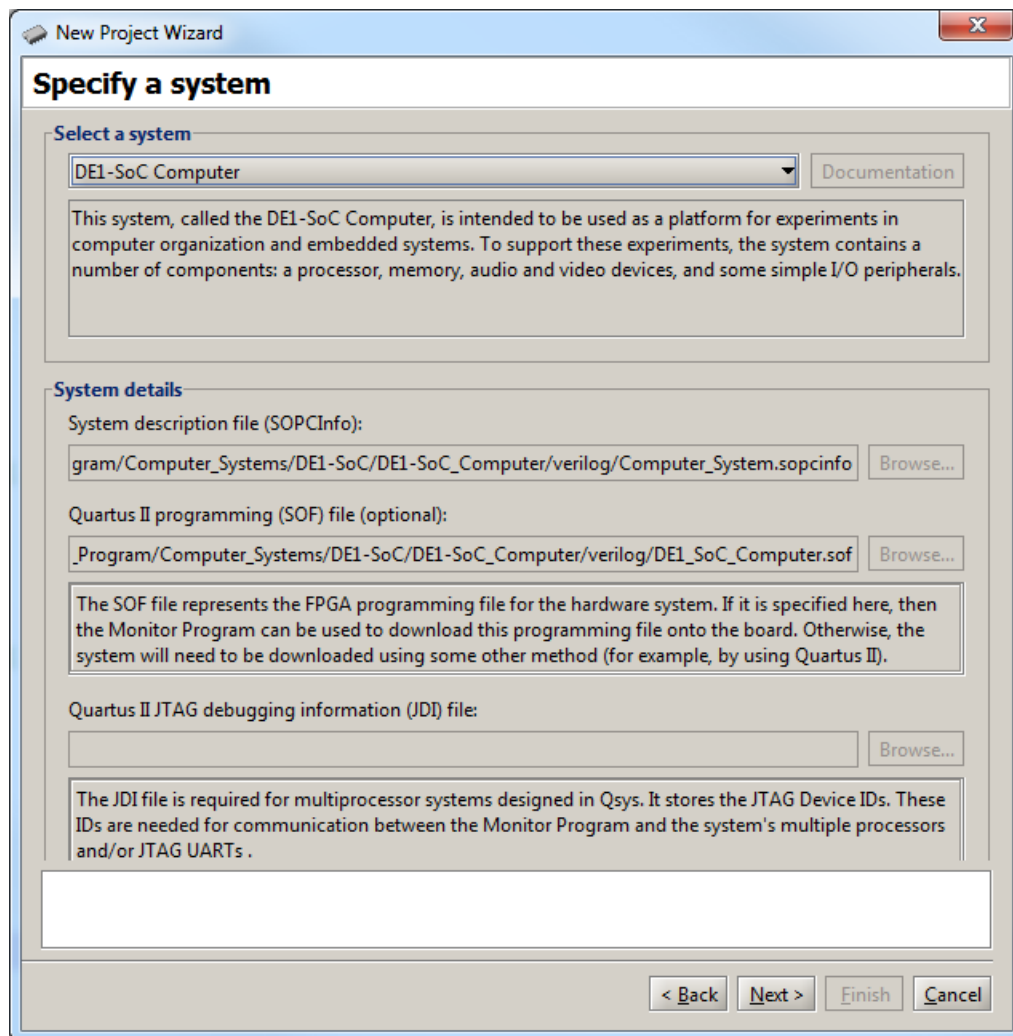
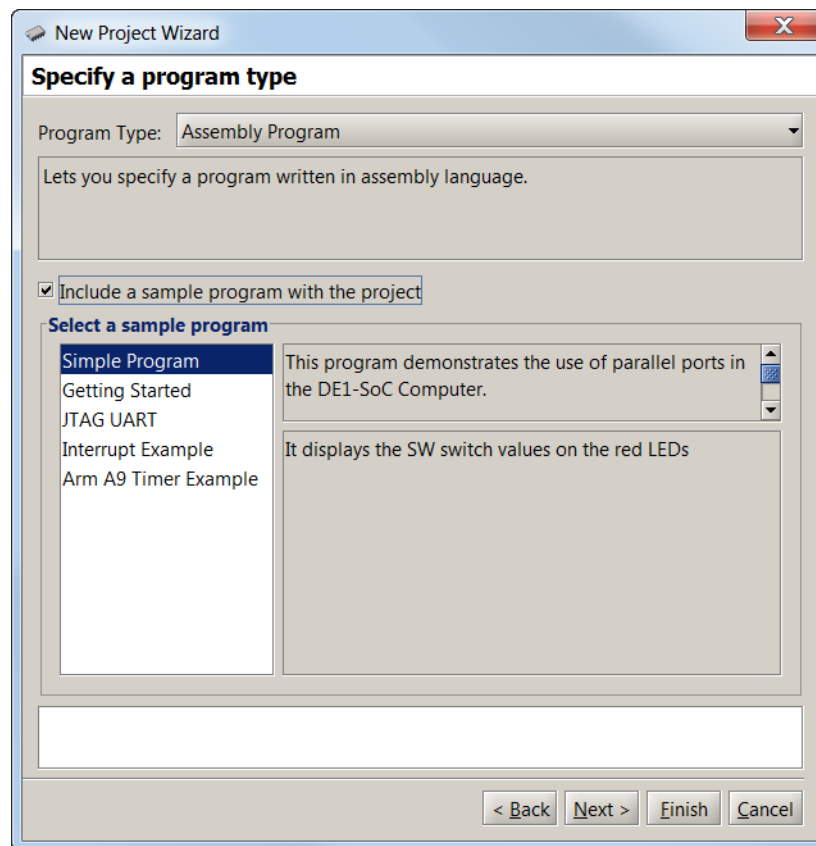

Figure 6. Specifying the desired hardware system.
Figure 7. Selecting a program type and sample program.
2. Click **Next** to advance to the window shown in Figure 6, which is used to specify a particular system. A hardware system to be implemented on the FPGA board is usually generated by using Altera's Qsys tool. Information about creating systems using Qsys can be found in the *Introduction to the Altera Qsys System Integration Tool* tutorial, which is available in the University Program section of Altera's website.
For this tutorial we have chosen DE1-SoC Computer, as depicted in Figure 6. In the top right corner of the screen there is a **Documentation** button. Clicking on this button opens a user guide that provides all information needed for developing ARM programs for the DE1-SoC Computer, such as the memory map for addressing all of the I/O devices in the system. This file can also be accessed at a later time by using the command **Settings > System Settings** and then clicking on the **Documentation** button.
3. Click **Next** to advance to the screen in Figure 7, which is used to specify the program source files that are
For our example, set the program type to **Assembly Program**. When the DE1-SoC computer has been selected for the project, as we did in Figure 6, it is possible to click on the selection **Include a sample program with the project**. As illustrated in Figure 7, several sample assembly-language programs are available for this prebuilt computer. For our tutorial select the program named *simple_program*. This is a very simple program which continuously reads the state of the slider switches on the DE1-Soc board and displays their state on the red LEDs. The source code for the program is: